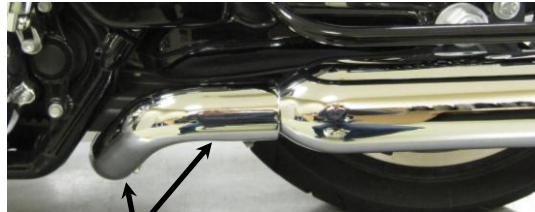

FIGURE 7
21. If the heatshields will not align properly with the collector heatshield then the collector heatshield may need to be loosened and moved forward or backward. Loosen the two button head bolts to adjust the collector heatshield forward or backward. See **FIGURE 7**.